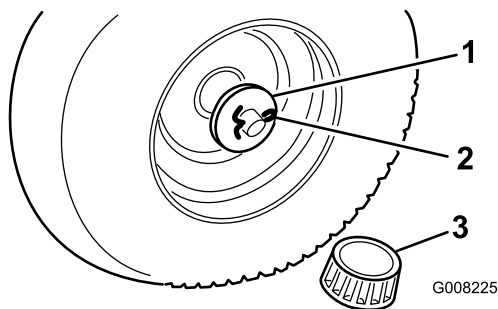

Figure 3
3. Slide the flat washer onto the axle (Figure 3).
4. Insert the cotter pin through the axle and bend the ends of the pin apart (Figure 3).
5. Push the hub cap (Figure 3) onto the end of the axle.